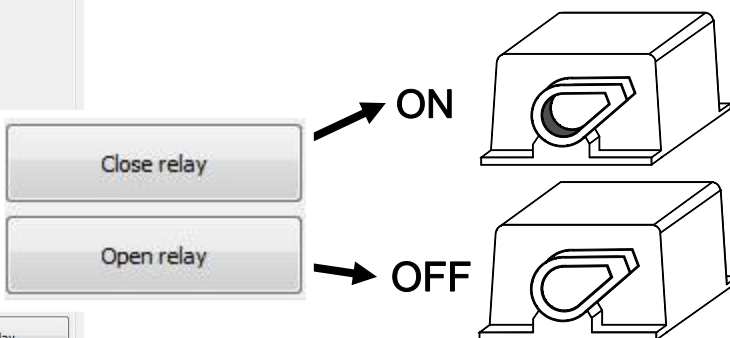

Figure 7-3: Buttons for closing and opening the relay
- 2 Enter on the MasterBus control panel the MasterBus MLi Ultra monitoring page. Operate the Close Relay button at the bottom of this page. If the relay is closed (On), the knob position must be shifted inwards. See figure 7-3.